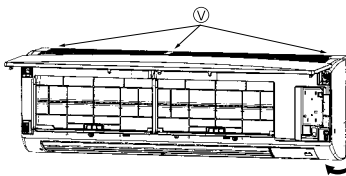

Fig. 6-5
8. Remove the cable guide. (Fig. 6-5)
10. Remove the liquid pipe thermistor (TH2). (Fig. 6-5)
11. Tear off the tape partly of vane motor and loosen the cord. (Fig. 6-5)
12. Loosen the cord of the fan motor. (Fig. 6-5)